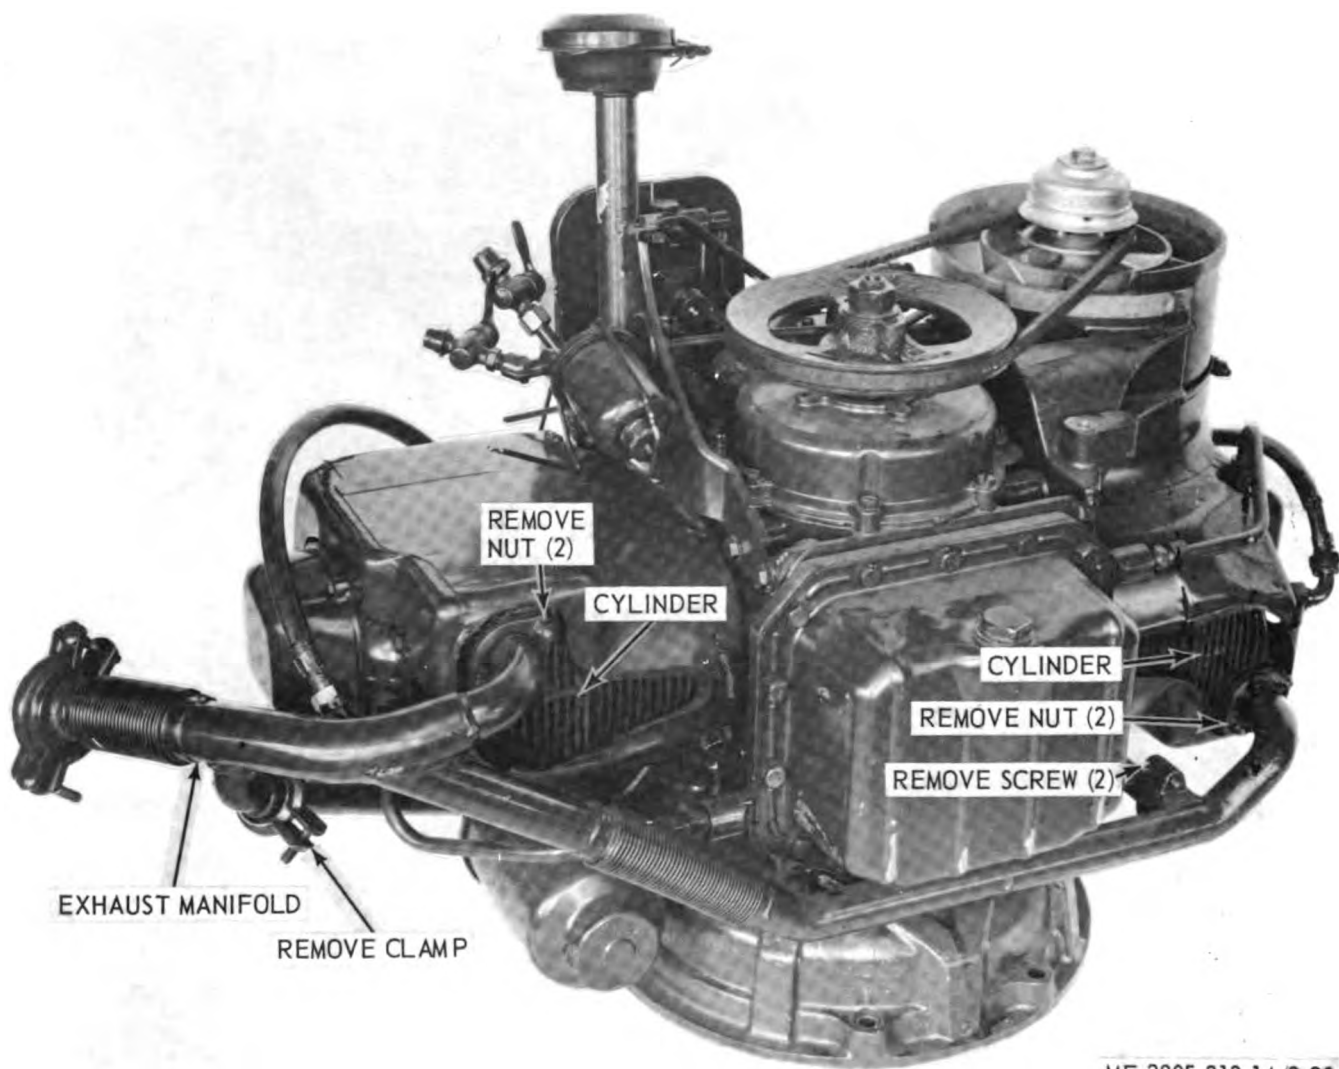

Figure 3-20. Exhaust manifold, removal and installation (Model AO42-V).
b. Removal. (Model AO42-V). Refer to figure 3-20 and remove the exhaust manifold.
(1) Clean all parts with an approved cleaning solvent and dry thoroughly.
(2) Inspect the manifold for cracks, breaks, corrosion, and other defects. Replace a defective exhaust manifold.
figure 3-20 and instal the exhaust manifold.